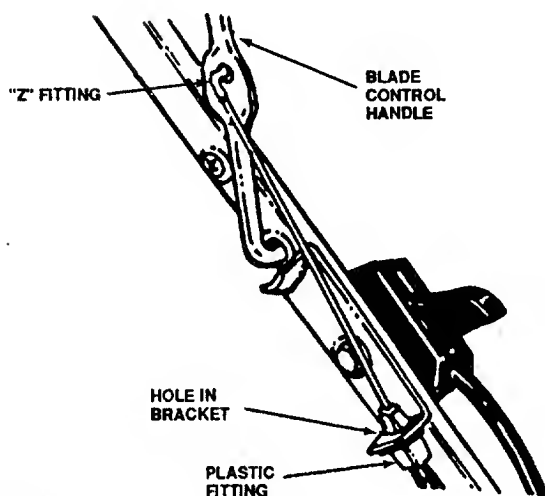

FIGURE 5.
1. The brake cable is attached to the engine, and has a "Z" fitting on the loose end. Route the brake cable below the lower handle. Place end of cable through the hole in the bracket as shown (See Fig. 5). Be careful not to bend or kink the cable at any time. Push the plastic fitting until it locks into the hole in the bracket.
2. Hook the "Z" end of the brake cable into the hole in the blade control handle from the inside to the outside as shown (See Fig. 5).